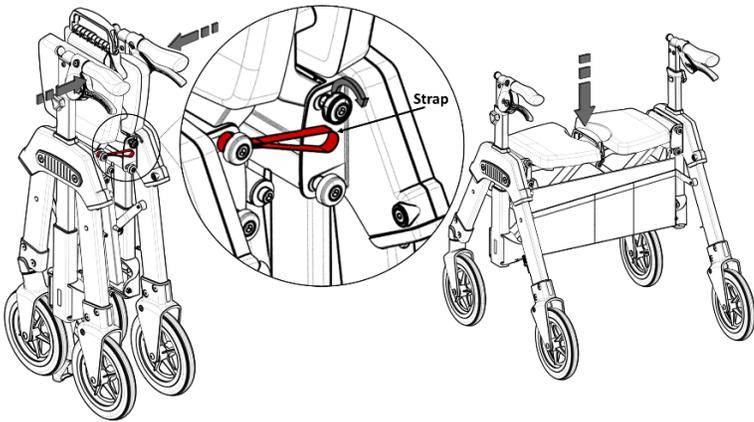

FIGURE 1
1. To **open** the Rollator, squeeze handles together and unhook **Strap**, pull handles apart, and push down on the seat as shown in *FIGURE 1*.